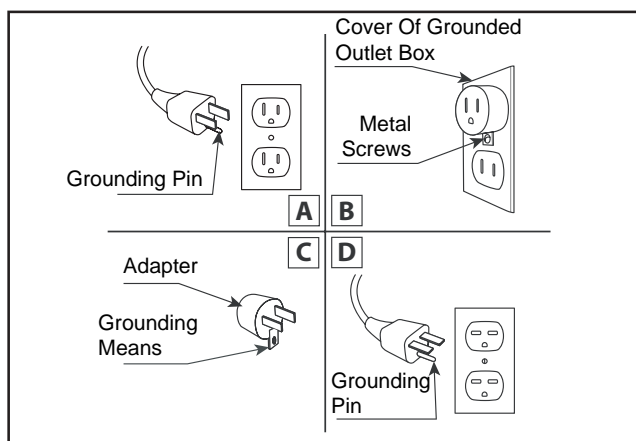

Fig. 1
15. See directions in Figure 1. This heater is for use on 120 volts. The cord has a plug as shown in figure 1. See Figure 1 for grounding instruction. An adapter as shown at C is available for connecting three-blade grounding type plugs to two-slot receptacles. The green grounding plug extending from the adapter must be connected to a permanent ground such as a properly grounded outlet box. The adapter should not be used if a three-slot grounded receptacle is available.